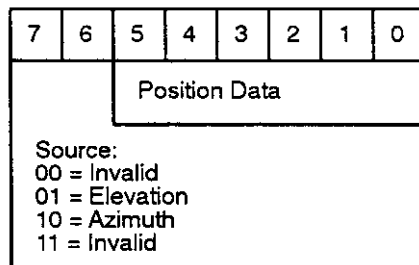

Figure 24. Elevation & Azimuth Position Word (Words 3 & 4 or 10 & 11).
- Word 3: Position (lower 6 bits) see Figure 24
- Word 4: Position (upper 6 bits) see Figure 24
Word 10: Position (lower 6 bits) see Figure 24
Word 11: Position (upper 6 bits) see Figure 24